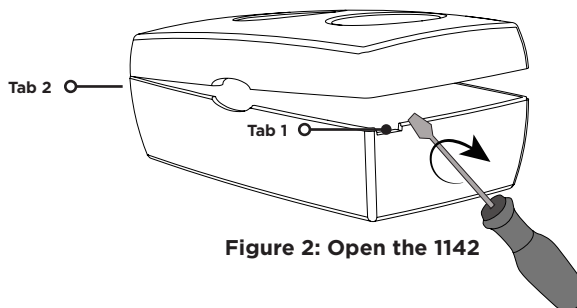

Figure 2: Open the 1142
1. Insert the screwdriver in **Tab 1** and twist it clockwise as seen in Figure 2.
3. Align the top housing and LED cut-out with the base housing and LED cut-out and snap into place. See Figure 2.